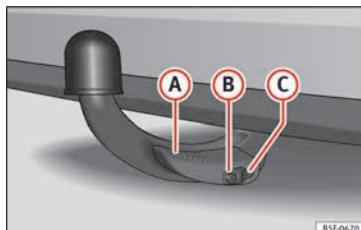

Fig. 225 Detachable ball properly attached
- Lever ① » Fig. 225 is fully raised.
- The release bolt ② » Fig. 225 is sticking fully out (the red and green part is visible).
- Cover ③ » Fig. 225 is placed over the lock.